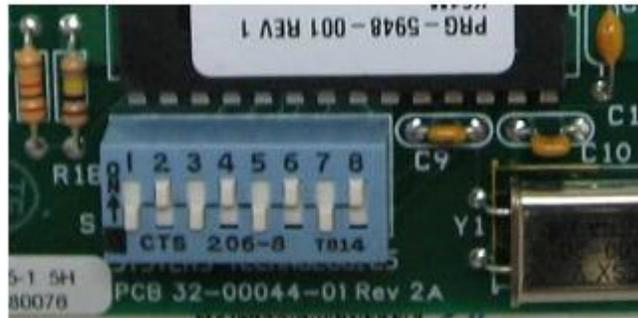

Figure 5
- Use the dipswitch, Figure 5, on the bottom side of each light to set the address.